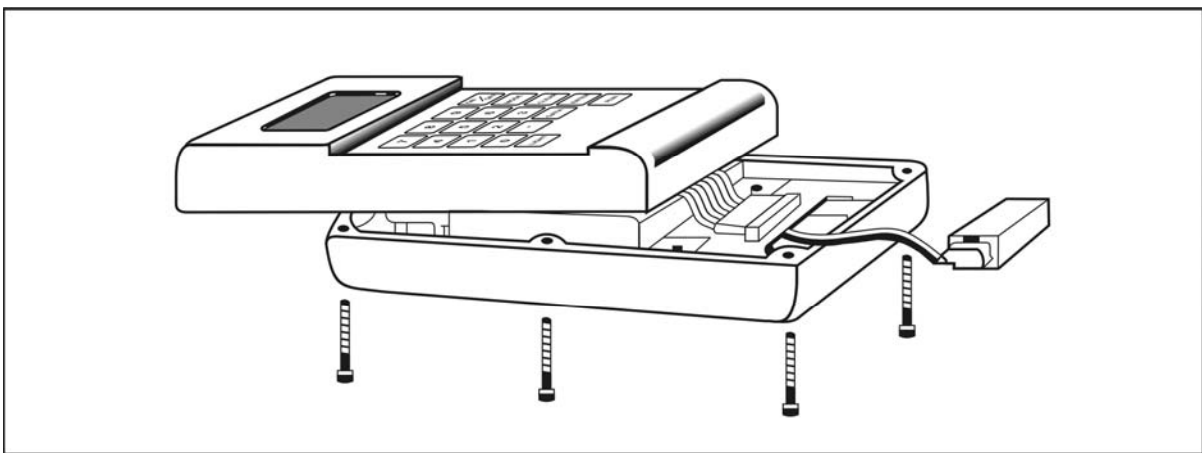

Figure 3-7. Battery Replacement
- Carefully lifts off the top half of the case. (A flexible ribbon cable connects the top to the bottom.) The parachutist should not detach this cable from the bottom half of the unit. He pivots the top half of the case up over the bottom half as shown in Figure 3-7.